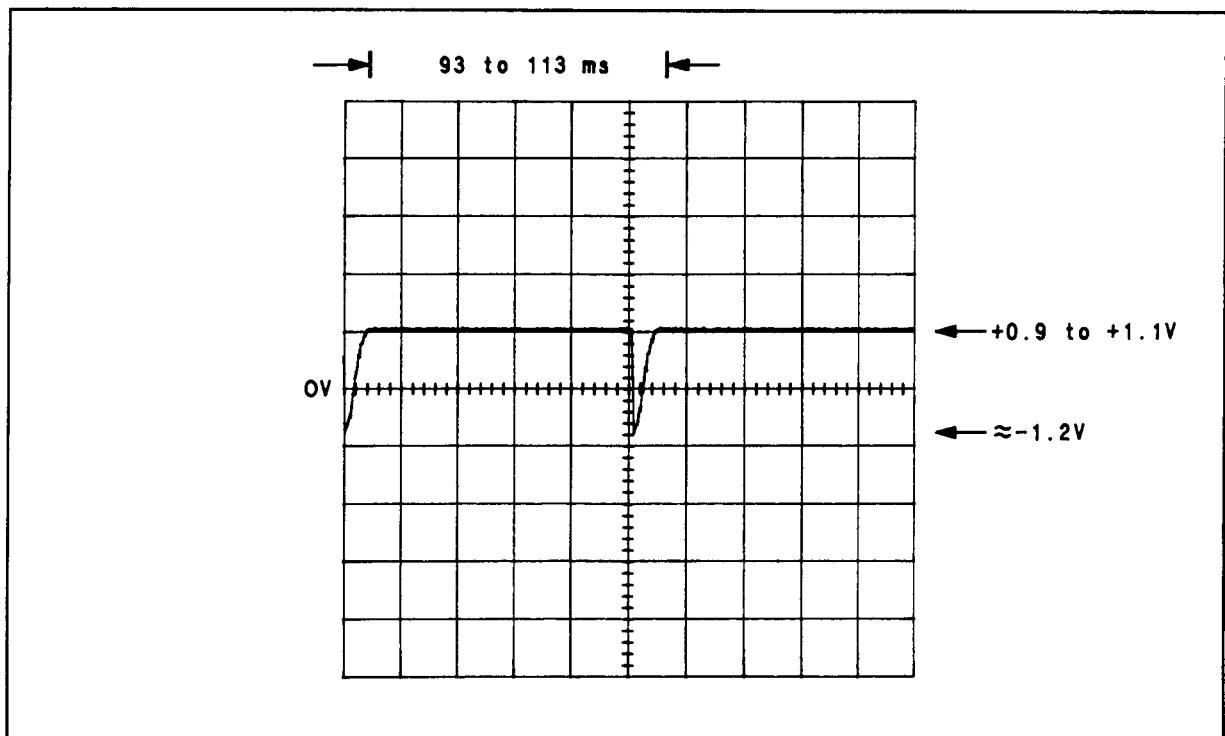

Figure 8F-20. Waveform for $\sqrt{2}$ Step 8
8. Connect a high-impedance, dc coupled oscilloscope to A5TP7. The waveform should be as in Figure 8F-20.